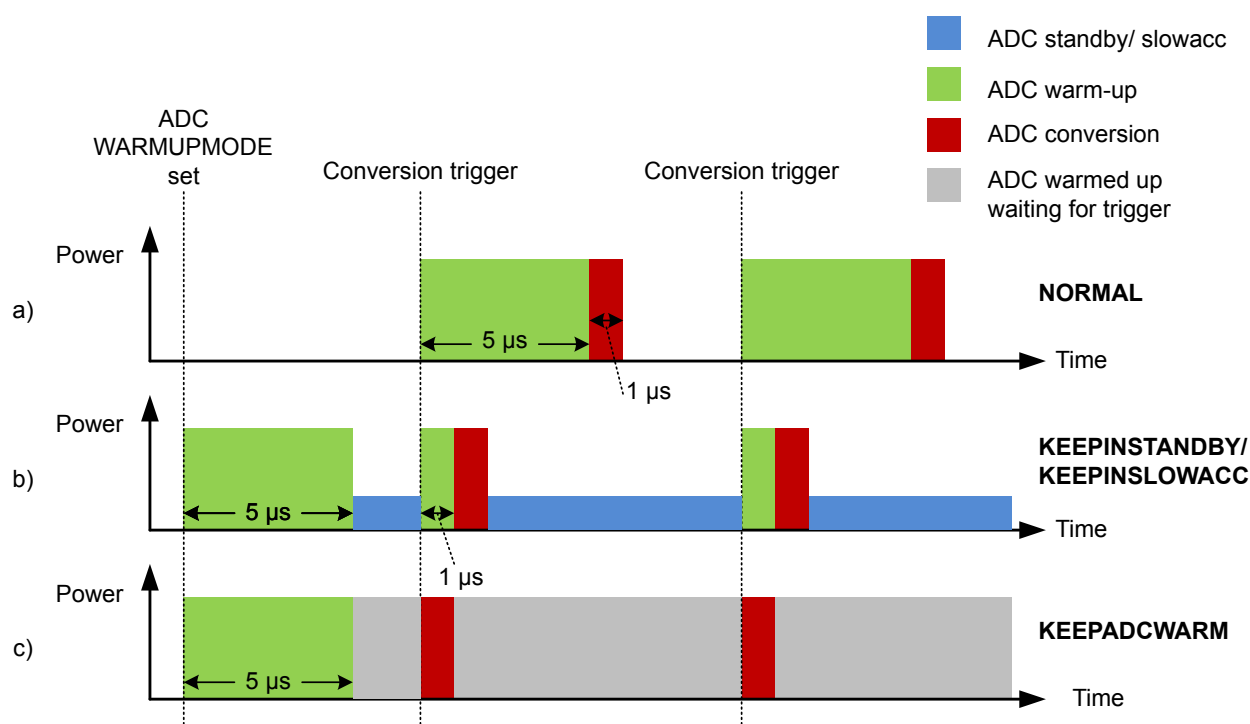

Figure 26.4. ADC Analog Power Consumption With Different WARMUPMODE Settings
Normally, the ADC will be warmed up only when samples are requested and is shut off when there are no more samples waiting. However, if lower latency is needed, configuring the WARMUPMODE field in ADCn_CTRL allows the ADC and/or reference to stay warm between samples, reducing the warm-up time or eliminating it altogether. Figure 26.4 ADC Analog Power Consumption With Different WARMUPMODE Settings on page 873 shows the effects on analog power consumption in scenarios using different WARMUPMODE settings.
- **NORMAL:** This is the lowest power option for general-purpose use and low sampling rates (below 35 ksp/s). The ADC and references are shut off when there are no samples waiting. The ADC does not consume any power when it is shut down. A 5 μ s warmup time will be initiated prior to every conversion. Figure a in Figure 26.4 ADC Analog Power Consumption With Different WARMUPMODE Settings on page 873 shows this mode.
- **KEEPINSTANDBY:** This mode is suitable for infrequent sampling of lower impedance inputs, and is the lowest power option for sampling rates between about 35 and 125 ksp/s. It may also be useful for lower sampling rates where latency is important. The reference selected for scan mode is kept warm, but the ADC is powered down. The ADC will initiate a 1 μ s warmup period before a conversion begins. Because the reference is kept warm, the ADC will consume a small amount of standby current when it is not converting. Figure b in Figure 26.4 ADC Analog Power Consumption With Different WARMUPMODE Settings on page 873 shows this mode.
- **KEEPADCWARM:** This mode provides the lowest latency and allows for maximum sampling rates. The ADC and reference circuitry remain powered on even when conversions are not in progress. Figure c in Figure 26.4 ADC Analog Power Consumption With Different WARMUPMODE Settings on page 873 shows this mode. This mode consumes the most power, but as soon as a trigger event occurs, the acquisition and conversion begin with no warm-up time. Note that if KEEPADCWARM mode is set and HFXO is selected as the ADC clock source, the HFXO will remain on in EM2.